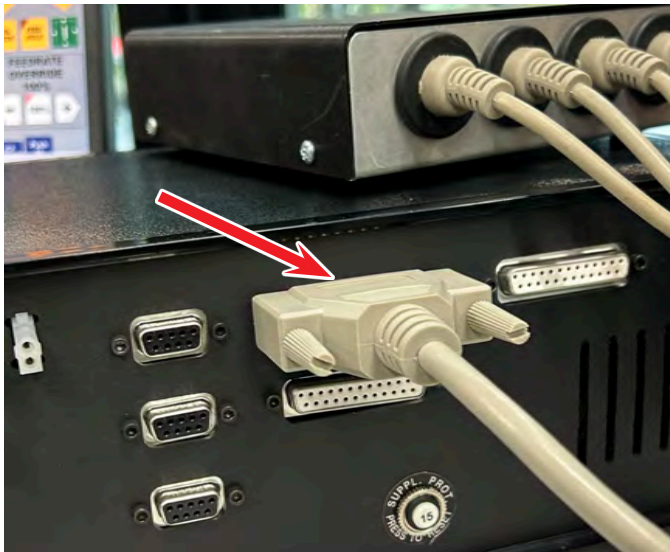

FIGURE 22
- B. Plug the opposite end of the parallel port cable into the top middle DB25 connector on the back of the controller (see Figure 22).